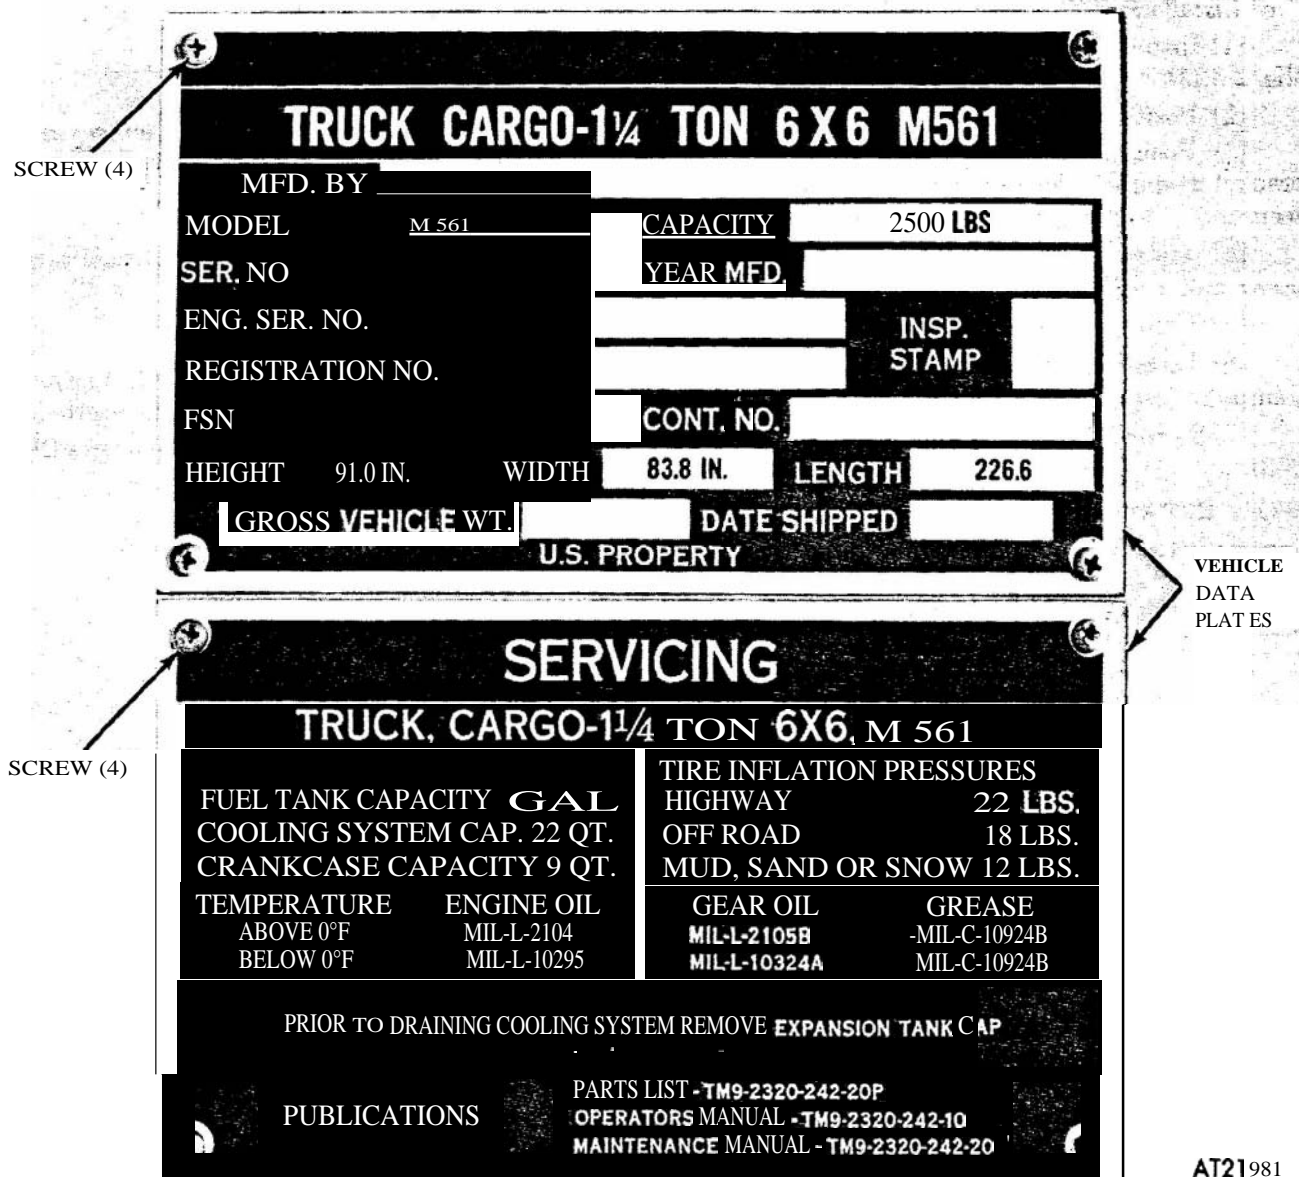

Figure 2-329. Vehicle data plates, removal and installation.
- a. *Removal.* Using a suitable screw driver, remove plate by removing screws securing plates to instrument panel (fig 2-329).
- (1) If a new plate is being installed, stamp data contained on old plate on to blank spaces provided.
- (2) Install plate with sheet-metal screws (fig 2-329).